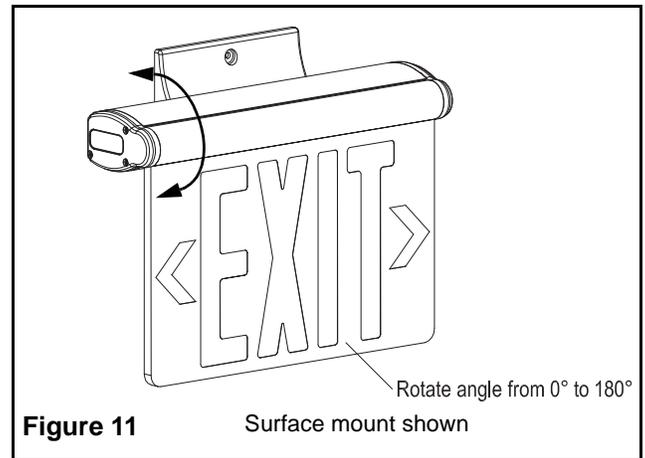

Figure 11
7. This unit can be mounted on any flat surface. The Exit panel can be rotated in any angle from 0° to 180° (see figure 11).
5. This unit can be mounted on any flat surface. The EXIT panel can be rotated in any angle from 0° to 180° (see figure 11).